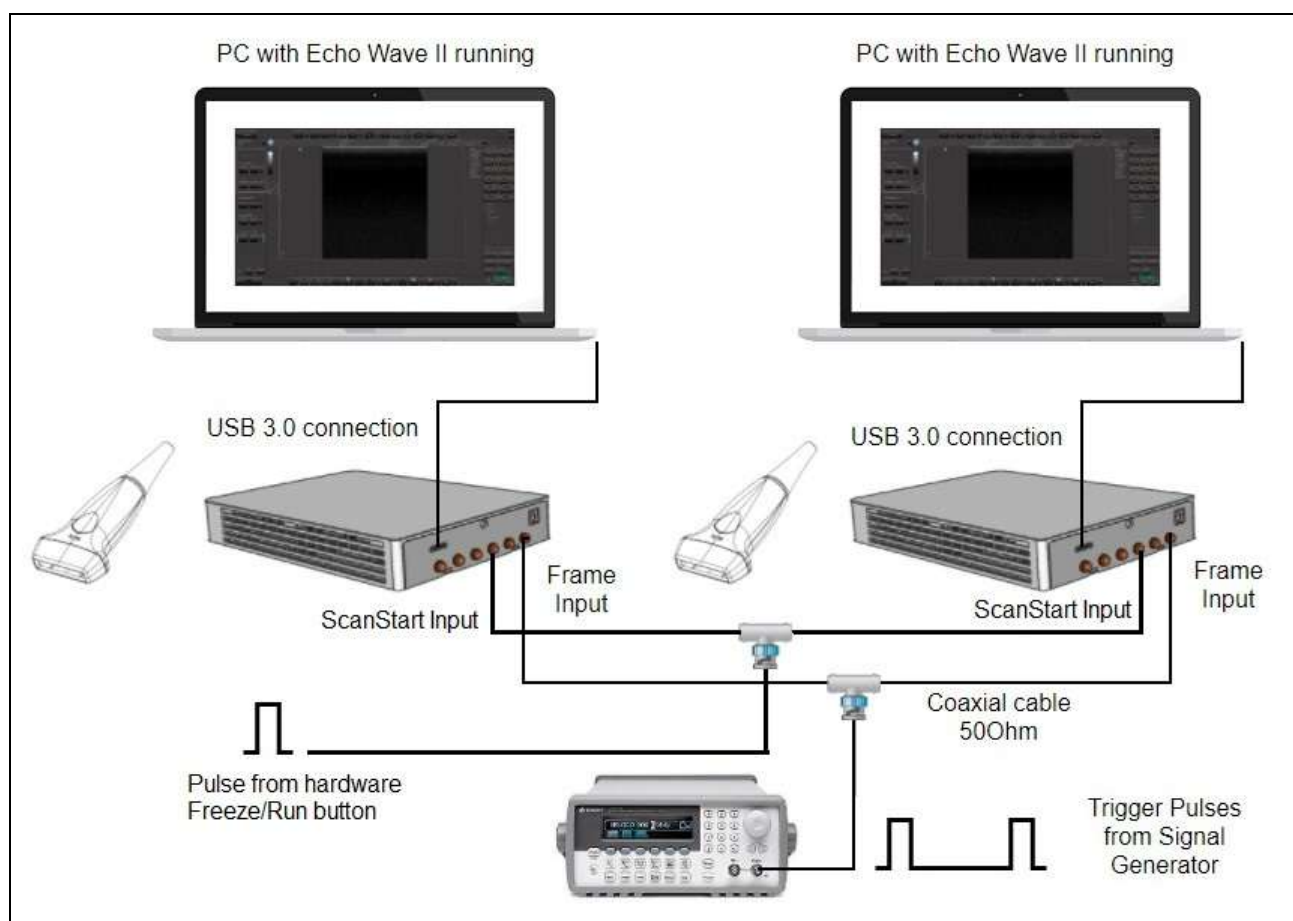

Figure 1. Twin ArtUs with 2 PCs
2. Connect the Signal Generator to both ArtUs devices as shown in **Figure 1. Twin ArtUs with 2 PCs** using 50 Ohm coaxial cables and appropriate connectors. ArtUs has SMA50 connectors for coaxial cable attachment
3. Connect the hardware Freeze/Run button to the ScanStart Inputs of both ArtUs devices, as shown in **Figure 1**